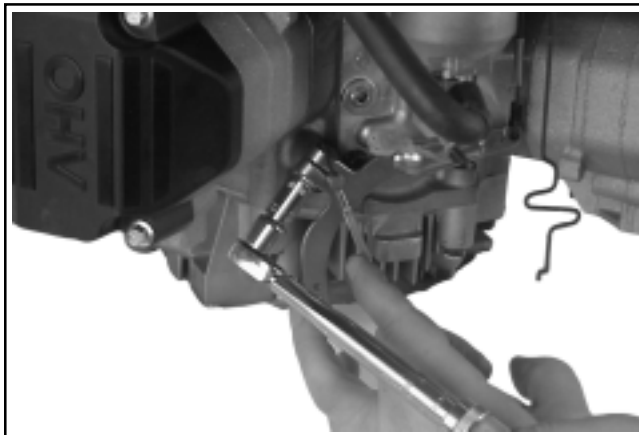

Figure 11-96. Torquing Governor Lever Clamp Hardware.
4. Insert a nail into the hole in the cross shaft and rotate the shaft **counterclockwise** as far as it will turn, then **torque** the hex. nut on the clamp screw to **9.9 N·m (88 in. lb.)**. See Figure 11-96. If, after torquing, no gap exists between the metal clamp surfaces, replace the governor lever.